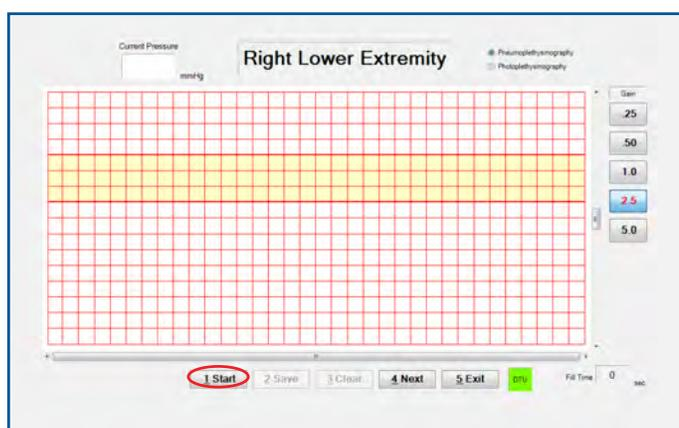

FIGURE 2.13 - Right Lower Extremity Test Screen - “Start” Button
18. To begin the test, click “Start”, or press 1 (Figure 2.13). For Pneuoplethysmography, the Venous Sense cuff will inflate. For Photoplethysmography, waveforms will begin.